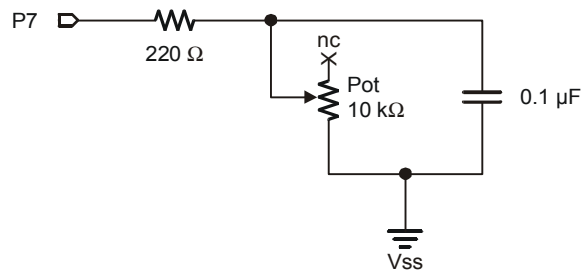
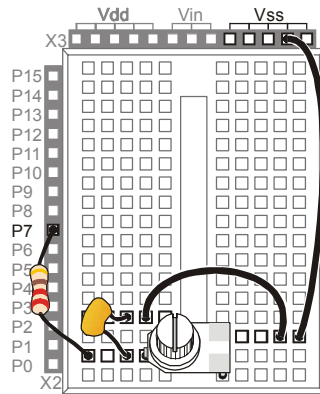

Figure 5-11
Figure 5-12
Figure 5-11 shows a schematic for the fast RC-time circuit, and Figure 5-12 shows the wiring diagram. This is the circuit that you will use to monitor the position of the potentiometer's input shaft with the help of the BASIC Stamp and a PBASIC program.
√ Build the circuit shown in Figure 5-11.
- √ Leave your potentiometer RC-time circuit from Activity #3 on your prototyping area. If you need to rebuild it, use Figure 5-11 on page 150 and Figure 5-12 on page 151. Make sure to use the 0.1 μF capacitor, not the 0.01 μF capacitor.